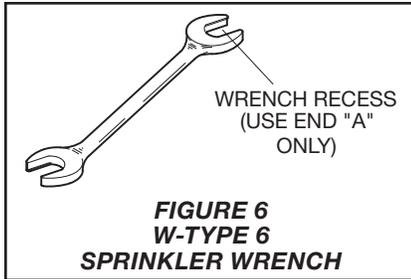

FIGURE 6
- For plain-barrel horizontal sidewall sprinklers, apply the Wrench Recess End "A" of the W-Type 6 Sprinkler Wrench (see Figure 6) to the Wrench Flat.
Specify: W-Type 6 Sprinkler Wrench (Figure 6), P/N 56-000-6-387